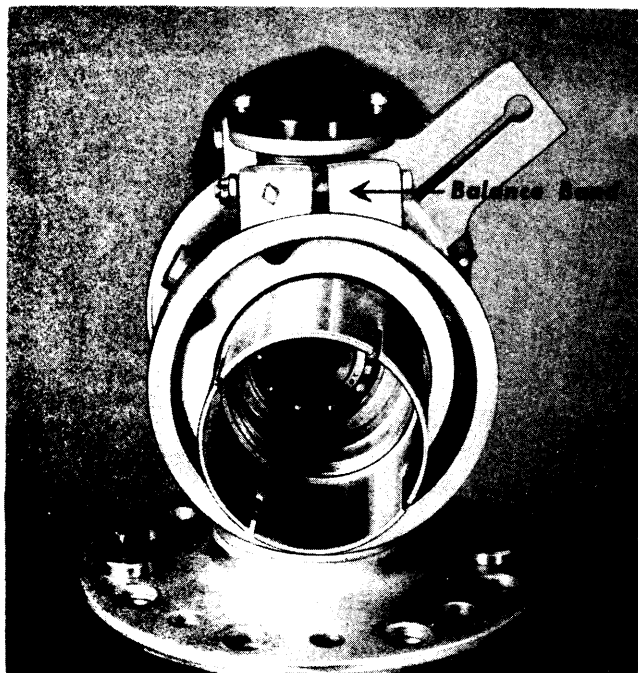

Figure 18. Balance Band
m. BALANCING WEIGHT ASSEMBLY.—The balance weight band assembly or assemblies for the entire propeller are bolted around the outer end of both blade bores (See figure 18). This assembly will have to be removed in order to apply the flange seal plate assembly tool when the hub is assembled. When removing, mark the original position first, then withdraw the nut, bolt, spring and washers and detach the band assembly.
zontal or vertical balance, as determined on the balancing arbor (See Section VII, paragraph 2). Accomplish the required balancing by increasing or decreasing the lead washers in the balance weight band assembly or assemblies on the hub. (See figure 18.)